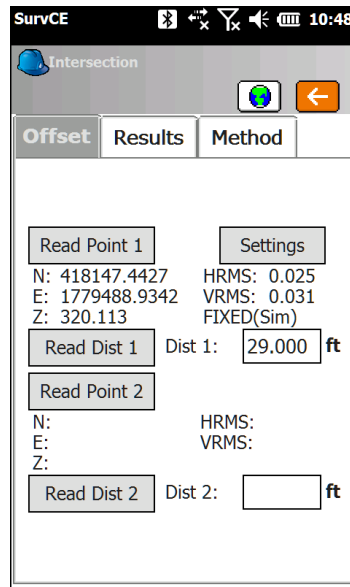

Figure 13
2. The coordinates for Point 1 should display and tap the Read Dist 1 button to measure from here (Fig.13)